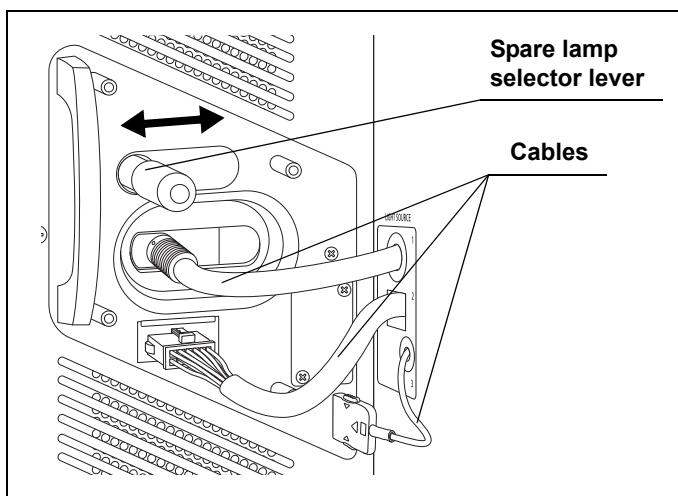

Figure 3.9
- 5 Confirm that none of the cables are intersected. (See Figure 3.9)